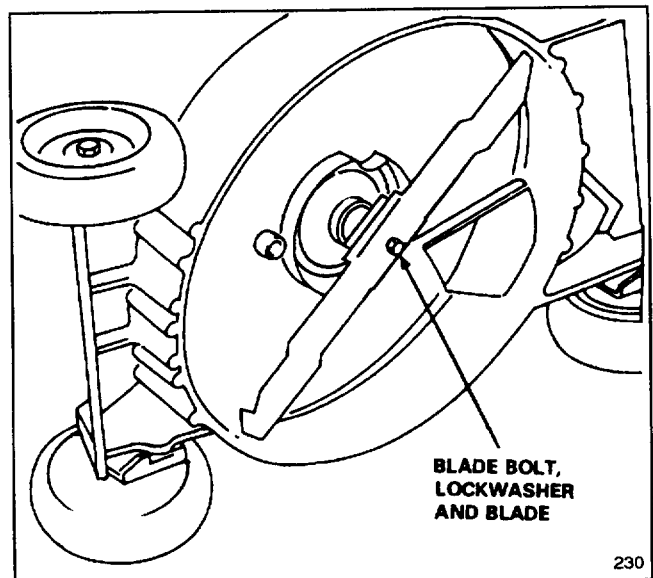

Figure 20
3. Tip mower on its right side (Fig. 20). Avoid rotating blade as starting problems may result.
5. REMOVING BLADE—Grasp end of blade using a rag or thickly padded glove. Remove blade bolt, lockwasher, and blade (Fig. 20).